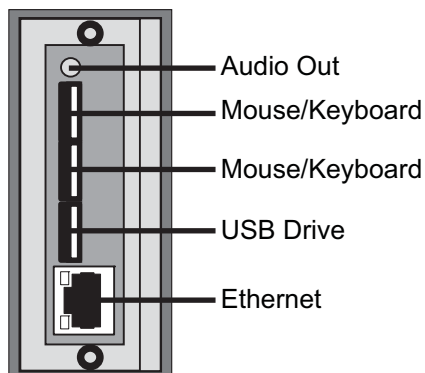

Figure 2.2 CTC Card — Connections
**Figure 2.2** illustrates the connections to the Single Controller Card (CTC) of the pro-xi 100 system.